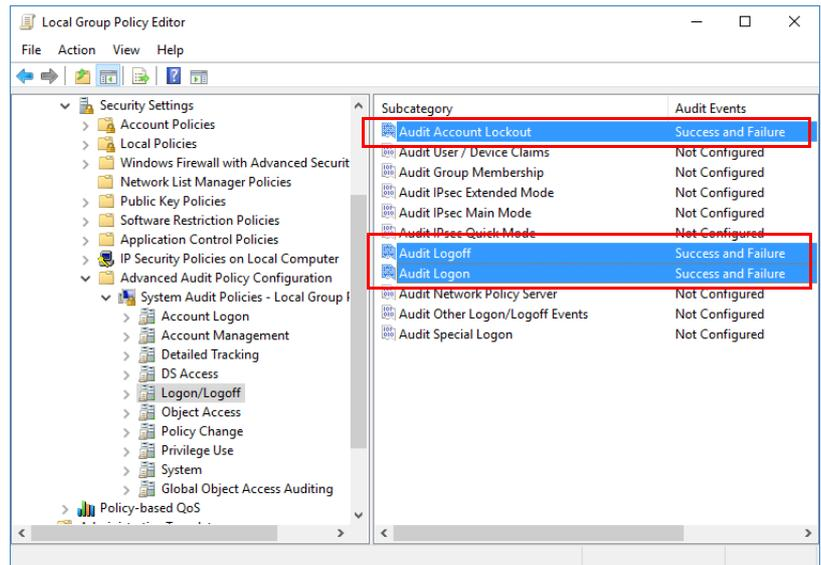

Figure 2-59. Logon/Logoff setting
- Set these properties for Logon/Logoff, see Figure 2-59.